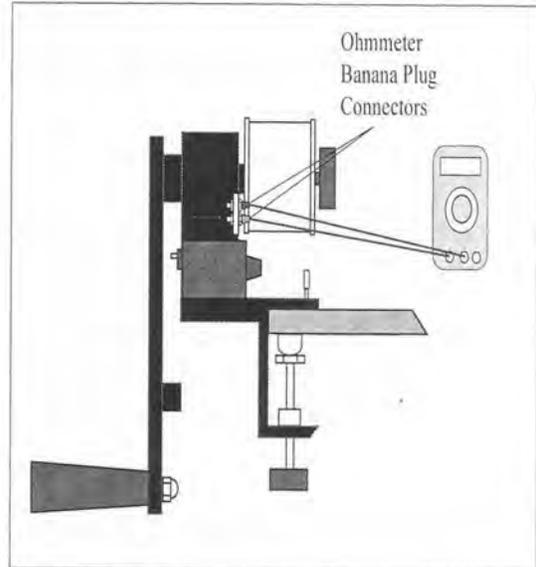

Figure 5.2
9. Use the banana-plug connectors to attach the ohmmeter (see Figs. 5.2 and 5.4), and set it to the 200 k $\Omega$  setting or similar resistive range. Your apparatus is ready to go! Some tips about setting up multimeters are provided at the end of the instructions.